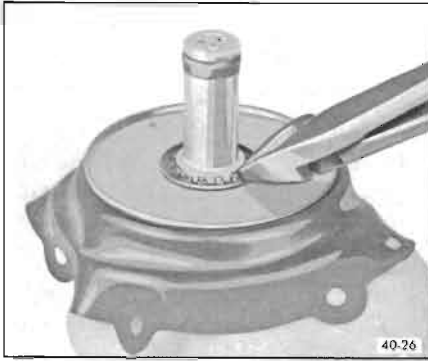

Figure 40-26—Removing Diaphragm Retainer
1. Remove diaphragm retainer with diagonal pliers and discard retainer. See Figure 40-26.